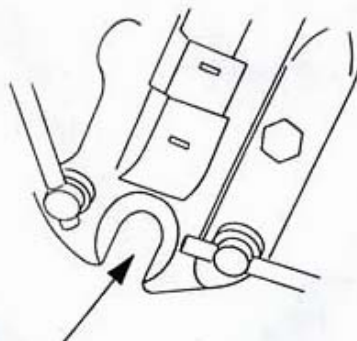

Fig. 5
- Slacken the axle nuts sufficiently enough to free the flat washers (fig. 5).